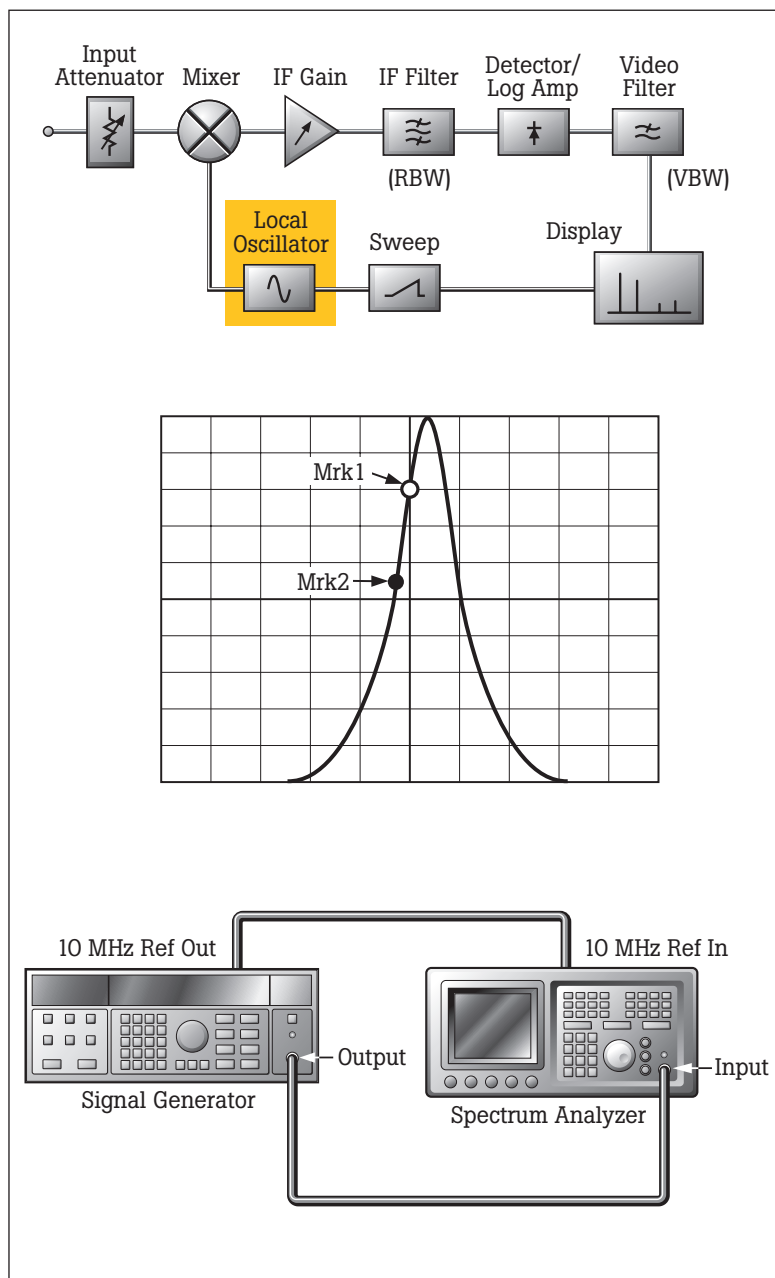

Figure 11. Residual FM test and typical traditional equipment setup
This test, shown in Figure 11, measures the residual FM caused by inherent short-term instability of the analyzer's local oscillator system, by using the linear part of the analyzer's IF filter response as an FM demodulator. The test first determines the slope of the IF filter (demodulation sensitivity) in Hz/dB and then measures the signal amplitude variation caused by the residual FM. Multiplying these two values yields the residual FM in Hz. Note that the equipment setup for this test is the same as that for the noise sideband test.
To determine the demodulation sensitivity, set both the spectrum analyzer center frequency and the signal generator output frequency to the value specified by the manufacturer (typically 1 GHz). Now set the span per division, filter bandwidth, and video filter to the manufacturer-specified values. Next, adjust the displayed signal so that the linear portion of the displayed response coincides with the center frequency, as shown in Figure 11, and note the marker-delta readout. Calculate the demodulation sensitivity (D), dividing the displayed marker delta frequency in Hz by the marker delta amplitude in dB, and record the result. For example, if the marker-delta frequency is 250 Hz and the marker delta amplitude is 4 dB, the demodulation sensitivity would be 62.5 Hz/dB.